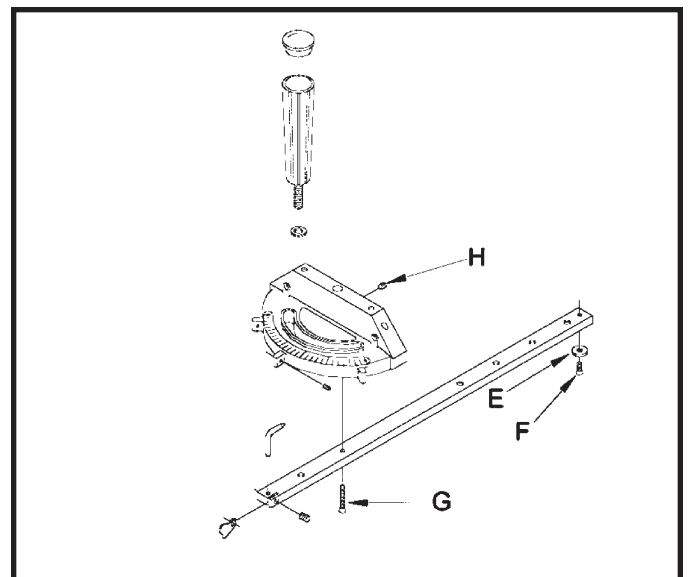

Fig. 49
The head of the miter gage pivots on a special tapered screw (G) that fastens the head to the miter gage bar. If the miter gage head does not pivot freely, or pivots too freely, it can be adjusted by loosening set screw (H) Fig. 49, and turning the screw (G) in or out. Be certain to tighten screw (H) after adjustment is made.
Your miter gage is equipped with a plate (E) Fig. 49, which fits into the T-Slot groove in the table. This allows the miter gage to be pulled off the front edge of the table without falling. This allows for a longer cut off capacity in front of the blade.